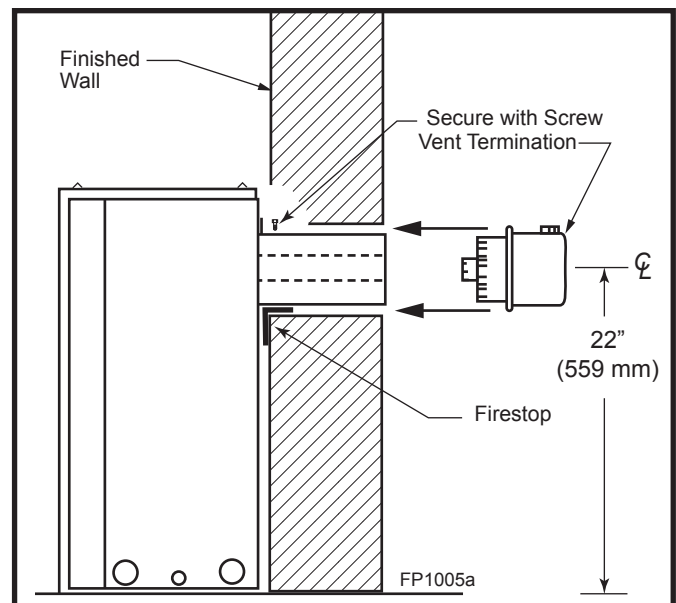

Fig. 15 Side view of final unit location.
Twist the termination collar so it locks onto fireplace collars. Run screw through tab to keep collar from turning. (Fig. 15)
4. Once the collar is twisted onto the fireplace collar, secure with a screw through the tab. (Fig. 15)
8. Secure the termination to the house with the four (4) screws provided. Be sure to seal around the termination and house cladding.